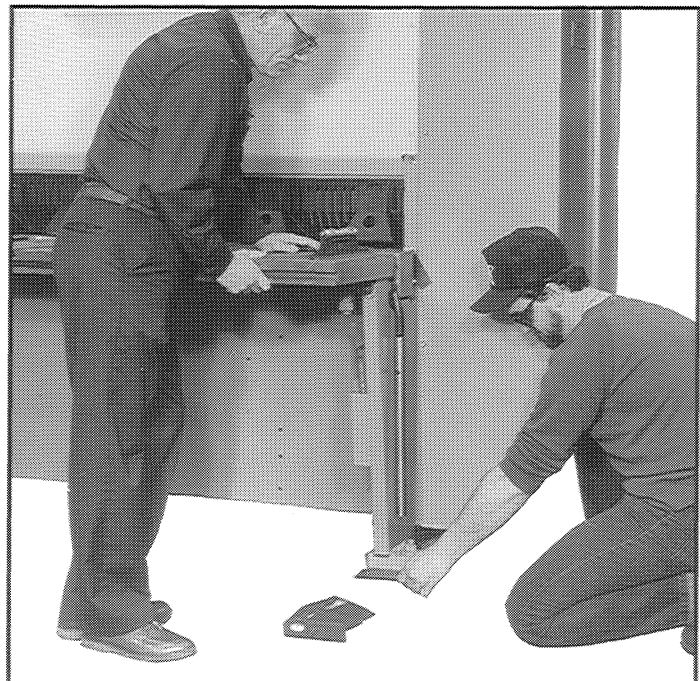

FIGURE 2-4 - Leveling the table
4. Level the shear front-to-back with the level crosswise (front-to-back) on the table as shown in Figure 2-4. Start with the level at the right end of the shear. Insert or remove shims under the front or rear foot of the right housings as required, using the leveling screws or steel wedges to raise or lower the shear.